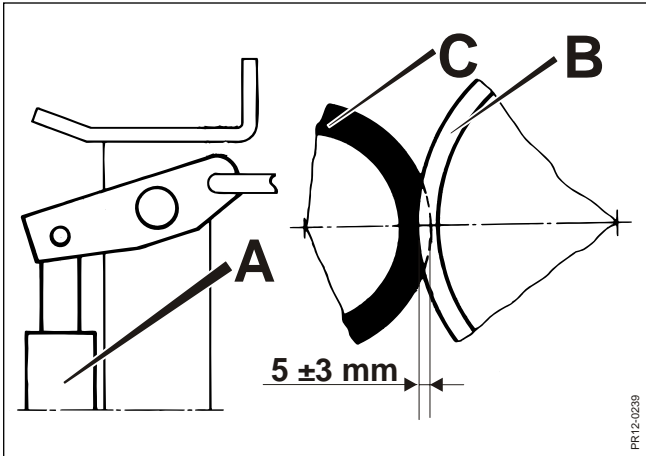
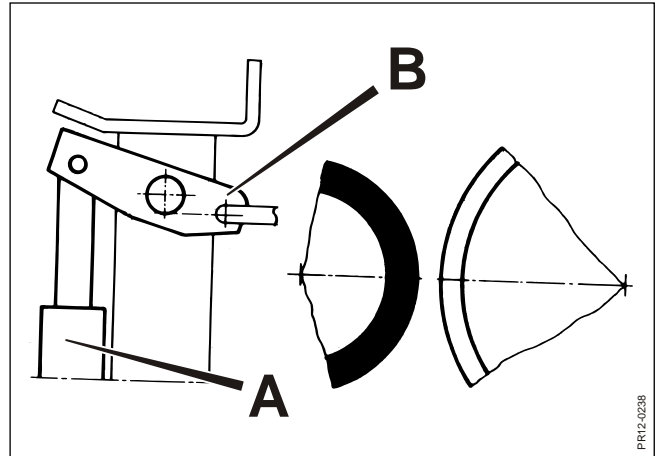

Fig. 4-18
Fig. 4-19
**Fig. 4-18** The overlap between the steel friction disc **B** and the rubber disc **C** must be 5+/-3mm. If the rubber disc is worn, the overlap is adjusted automatically by the electric motor **A**, as it always presses with the same maximum pressure and thus ensures a constant pressure between the two parts **B** and **C**.
**Fig. 4-19** The tightening of the V-belt drive is also adjusted automatically. It is determined by the electric motor **A**, which always drives with the same constant power.
FCT 1050 is available in a version with a metal detector (MD) with a special reverse system with neutral position. This neutral position is between the reverse function where the rubber disc and the friction disc are in mesh (fig. 4-18), and normal working position where the belt drive is tightened and drives the feed intake (fig. 4-19).